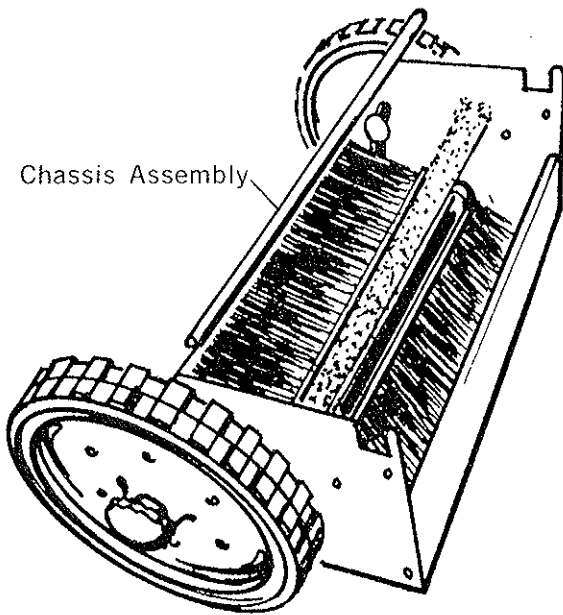

Figure 1
- 1 ~~SA-607-D~~ Chassis Assembly - Fig. 1